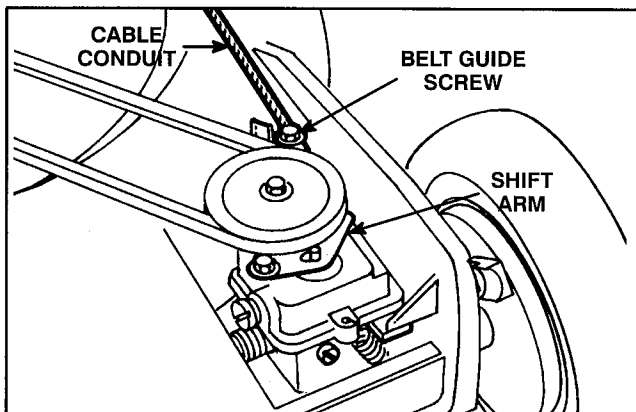

Figure 20
3. ADJUSTMENT (Fig. 20)—Loosen belt guide screw until cable conduit slides. Move handle—mounted wheel drive control to DISENGAGE position. Move shift arm toward clamp screw and hold in place. Pull cable conduit to remove slack and tighten belt guide screw.